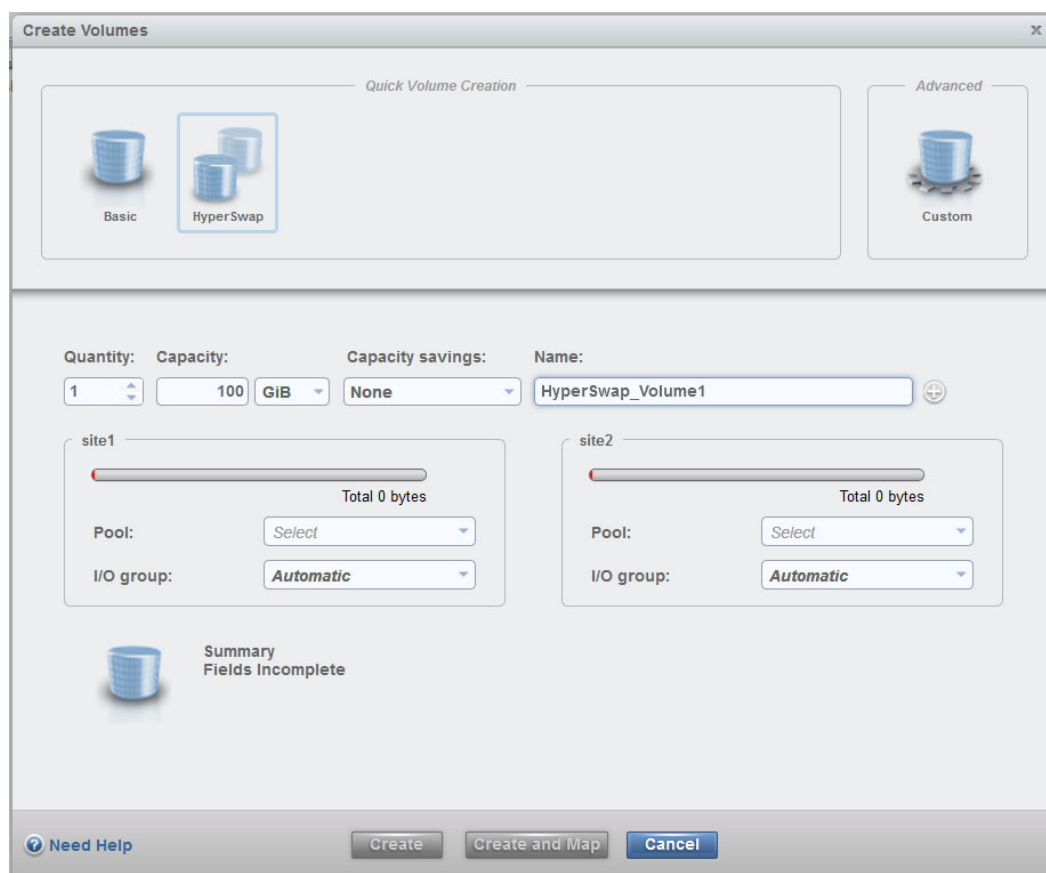

Figure 7-67 HyperSwap Volume creation
- If you are using the management GUI, use the Create Volumes wizard to create the HyperSwap volumes. Click **Volumes** → **Volumes** → **Create Volumes** and select **HyperSwap** to create HA volumes, as described in Figure 7-67.